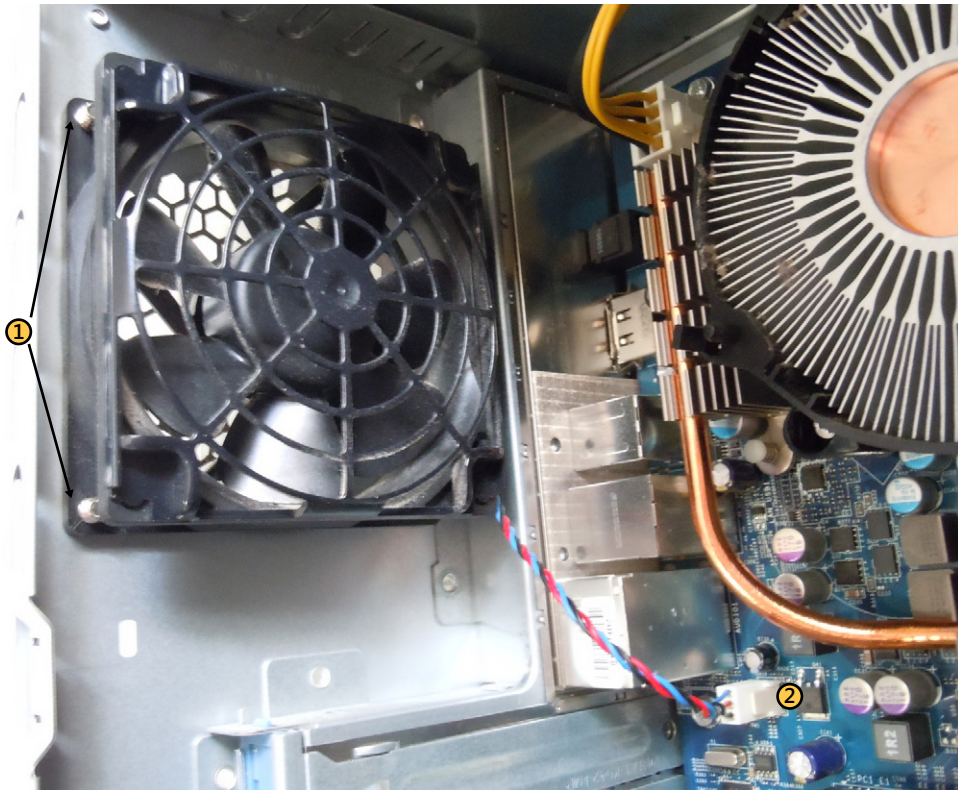

FIGURE 1-3 Removing a case fan.
Figure 1-3 shows the case fan within a system. Take a look at it as you follow the steps to remove the fan.
1. **Remove four screws from the back of the case.** The arrows in Figure 1-3 point to two of the screws, and the other two screws are on the other two corners of the fan.